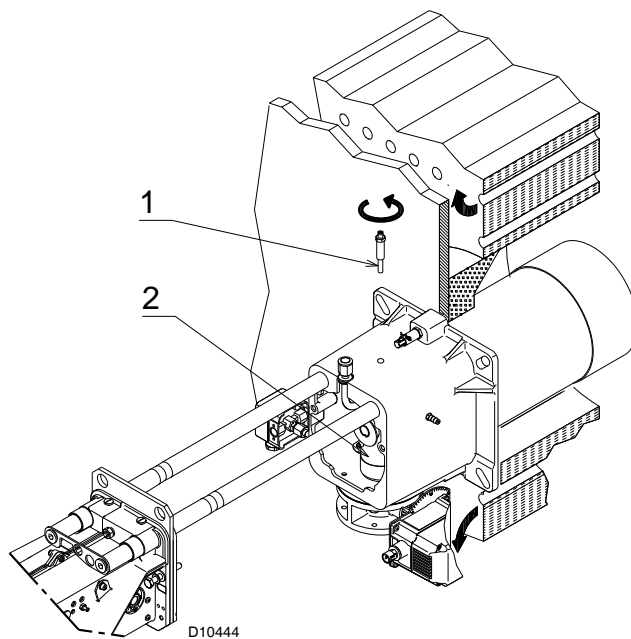

Fig. 14
- remove the screw 1)(Fig. 14) and extract the inner part 2) of the head;
At this point of the installation, the combustion head is fixed to the boiler as shown in Fig. 14.